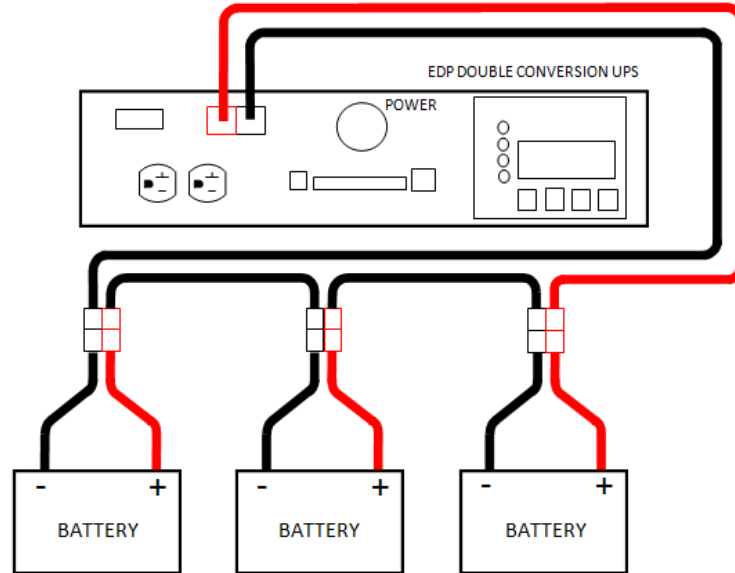

Fig. 4-4: 1.5kVA EDP model, 36VDC Battery Harness Kit
2. The 1.5kVA system uses a 36VDC battery string. Refer to figure 4-4 when installing the battery harness for this system. **NOTE:** Follow diagram as pictured or system damage may occur.